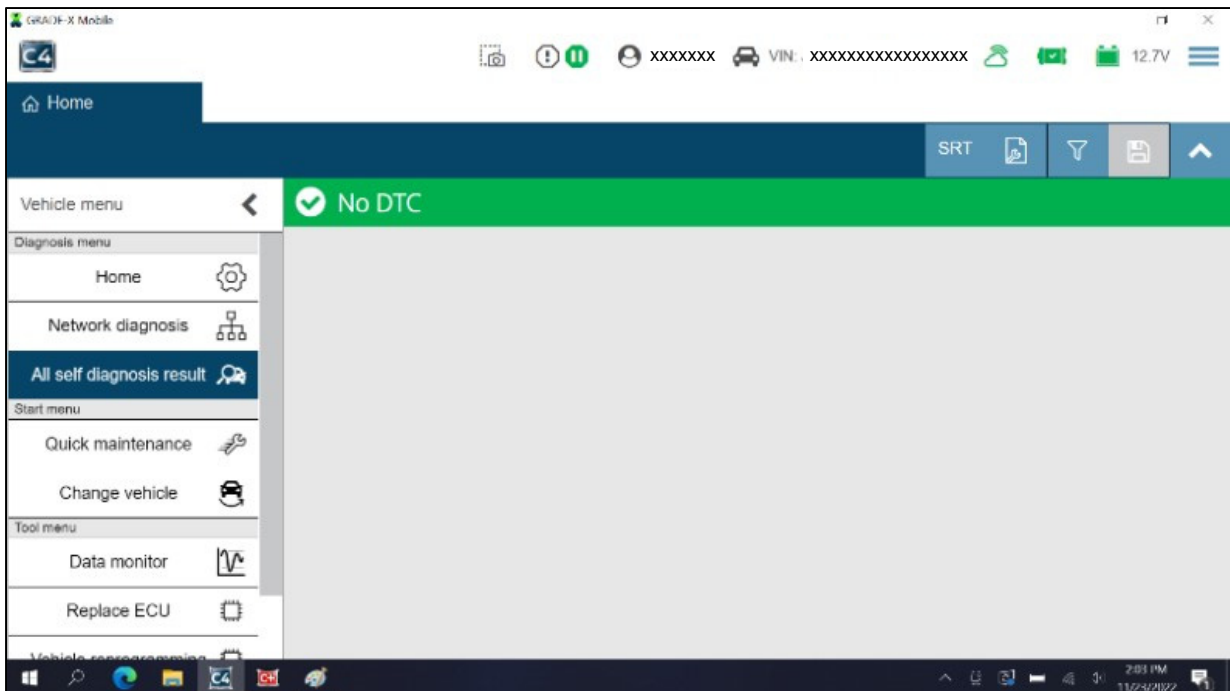

Figure 26
42. Close CONSULT 4 by selecting the X in the upper RH corner (Figure 26).
- a. Turn the vehicle OFF by depressing the power switch one (1) time.